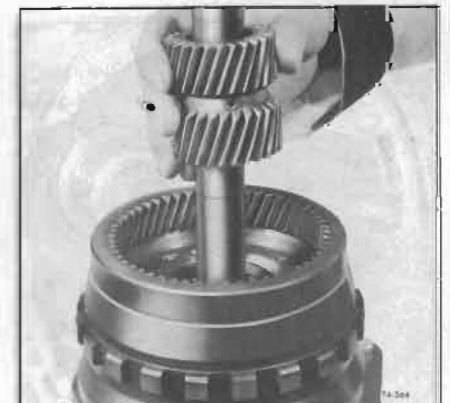

Figure 74-564
6. Remove sun gear. See Figure 74-564.